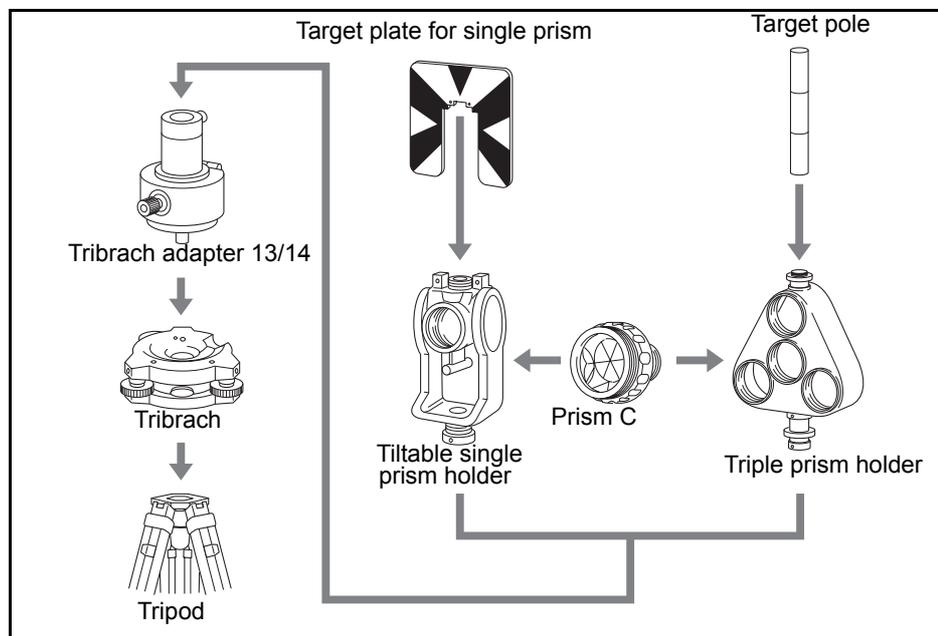

Figure 2.1 Assembling the prism reflector
1. Assemble the prism reflector as shown in Figure 2.1.